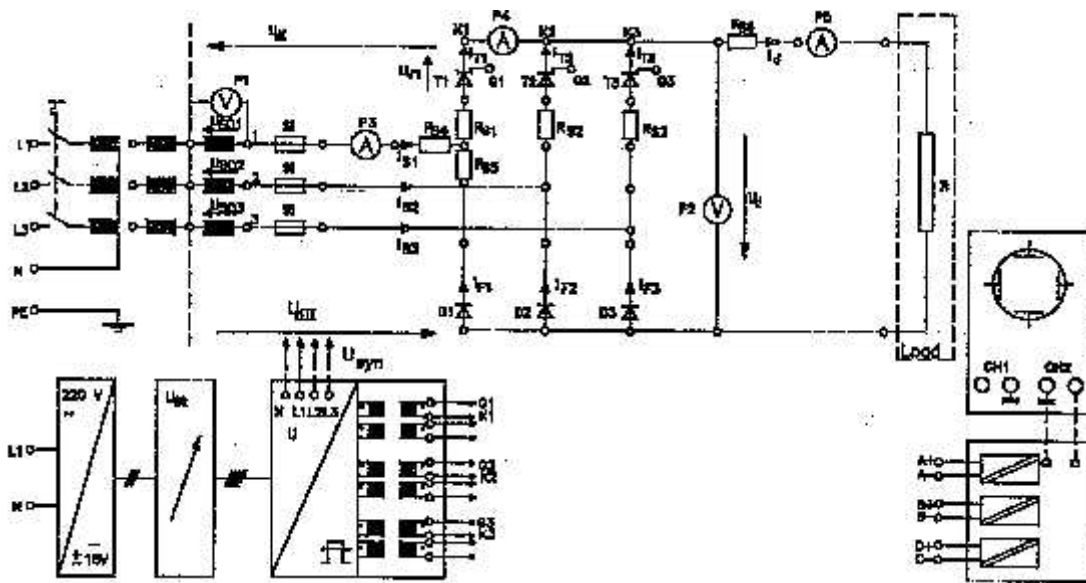

Figure 2 Half controlled six pulse bridge rectifier
- Connect the power circuit as shown in Figure 2, while using the supply voltage one at a time: 45V, 90 V and a load resistance of 33Ω , (three 100Ω resistance connected in parallel)
- Connect to the power circuit shown in Figure 2, a load made up of a resistance of 33Ω , (three 100Ω resistance connected in parallel) in series with an inductance of 50 mH.